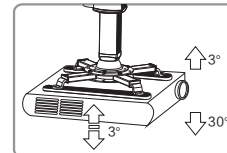

Figure 13
2. The direction of projector can be adjusted by forward 30° and backward 30° . Left and right adjustment is 3° . Figure 13.